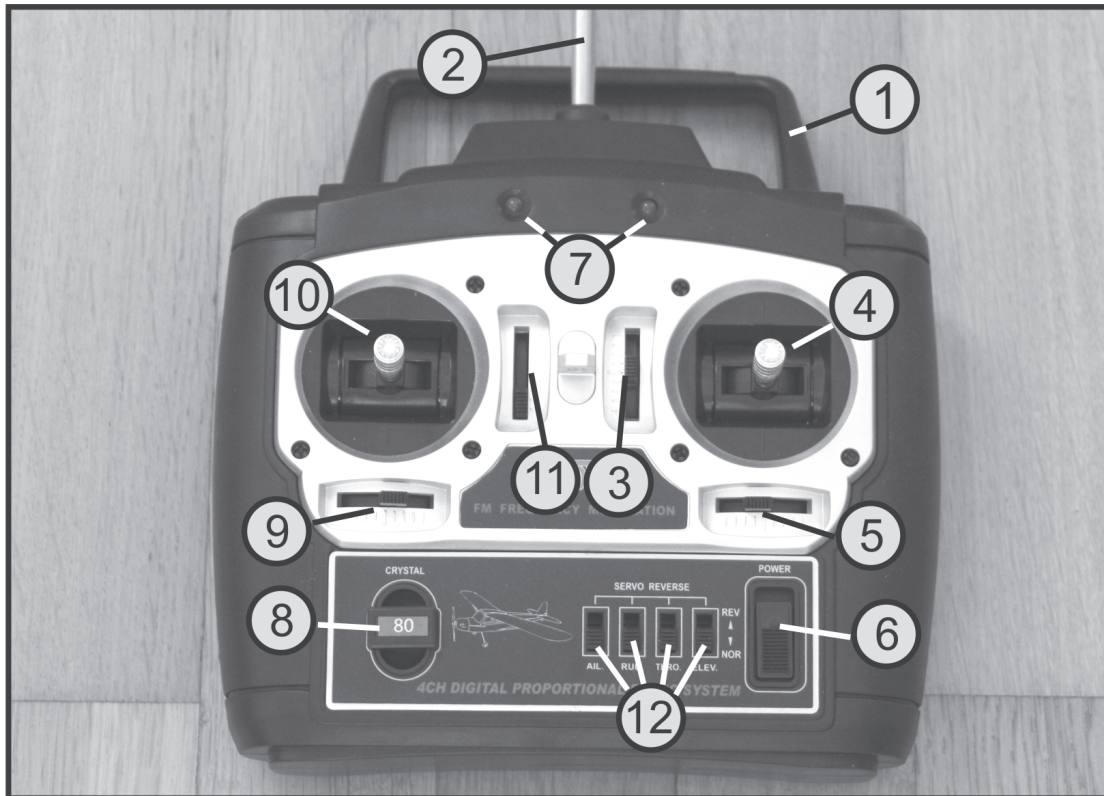

Figure 3
If necessary, the antenna of the transmitter is inserted as far as possible into the transmitter casing from the front/top through the circular opening (see also figure 3, pos. 2) and then tightened like a screw. Tighten the aerial manually. Use neither force nor tools to tighten it.
Ensure before each operation of the transmitter that the control stick for the motor rotation speed (see Fig. 3, Pos.10) is in the "Motor off" position. For this purpose, the control stick must be pushed down completely or pulled towards you as far as possible.
When new batteries or freshly charged batteries are inserted, pull the antenna of the transmitter all the way out and switch on the transmitter with the function switch (see Figure 3, pos. 6) for test purposes. The red and green LEDs of the operating voltage display (see Fig. 3, Pos. 7) are both lit and signal sufficient power supply of the transmitter.